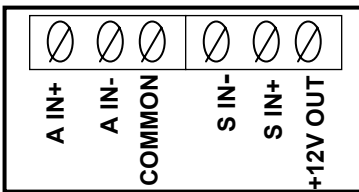

Figure 22
6. Connect a small jumper wire between the **COMMON** and the **S IN-** terminals and secure the jumper in the **S IN-** terminal by turning the terminal's screw clockwise. (Refer to the *MX001* box or to *Figure 22* for the order of the terminals for the sensor wires.)